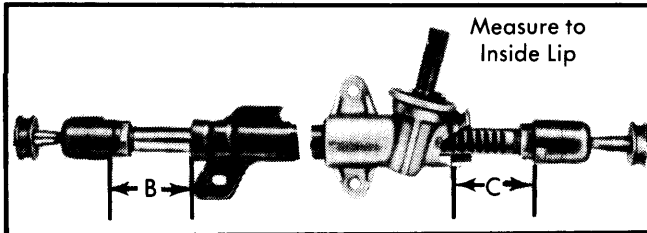

Fig. 3 Installation Adjustment of Tie Rods on Rack
2) Screw tie rods onto rack and adjust to specified dimensions (see Fig. 3). **NOTE** — Do not move rack from its centered position. With adjustment correct, secure tie rods with lock nuts and install rubber boots.